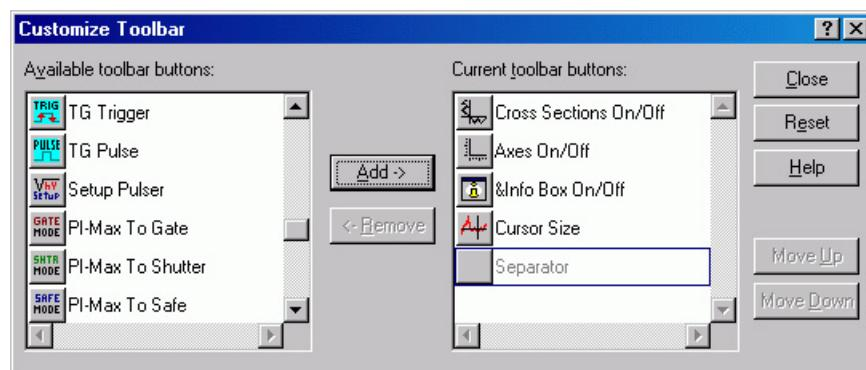

Figure 181. Customize Toolbar dialog box
Although the **Custom Toolbar** defaults with the buttons shown in Figure 180, many additional buttons are in fact available and can be added to the button using the Customize Toolbar dialog box (Figure 181). Buttons can be added or removed at any time and the new configuration will be saved when the dialog box is closed.
2. Referring to Figure 181, note that the buttons available for placement on the **Custom Toolbar** are listed on the left. Buttons already on the toolbar are on the right.
2. Referring to Figure 181, note that buttons already on the toolbar are listed on the right. Available but unused buttons are listed on the left.